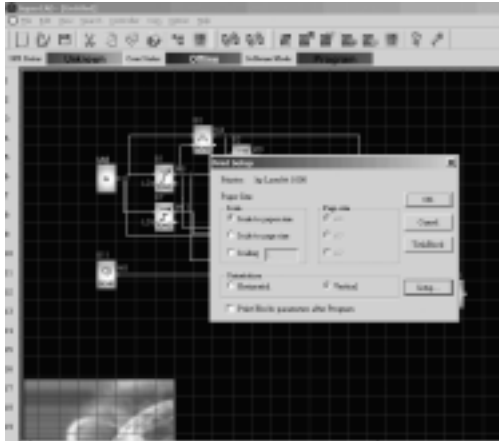

Fig. 4.16 File Print
2. Dialog box as shown in Fig. 4.16 appears, set up your printing requirement according to the cue of dialog box.